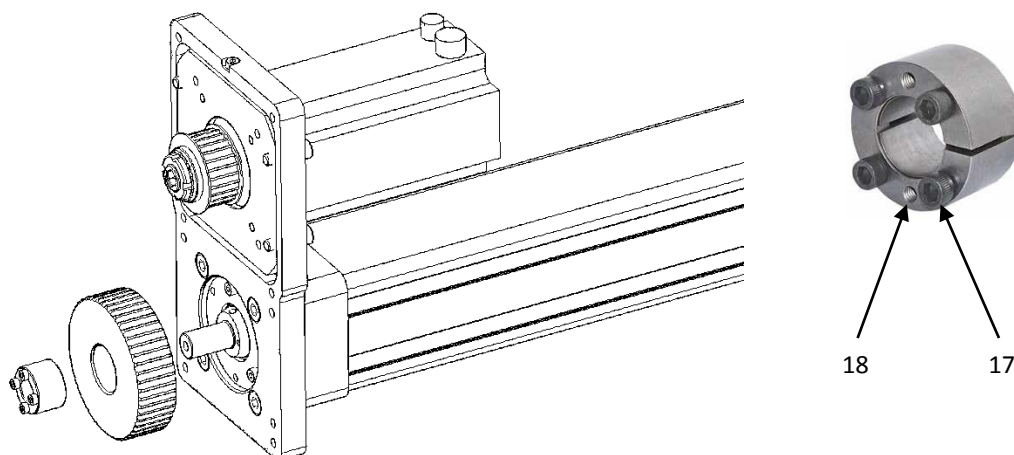

Figure 8.3 – Disassembly of driven pulley
- Unscrew the motor plate screws (8), in order that the motor plate (2) is free to shift on the support plate (9).
- Completely loosen the adjusting screw (10) to reach the minimum center distance between pulleys.
- Remove the belt (11) from the pulleys.
- Referring to Fig. 8.3, loosen and remove the taper lock screws (17) and screw them into the release threads (18) of the front ring, pressing off the rear ring and releasing the taper lock. Take out pulley and taper lock, remove the screws from the release threads and position them again into lock threads.